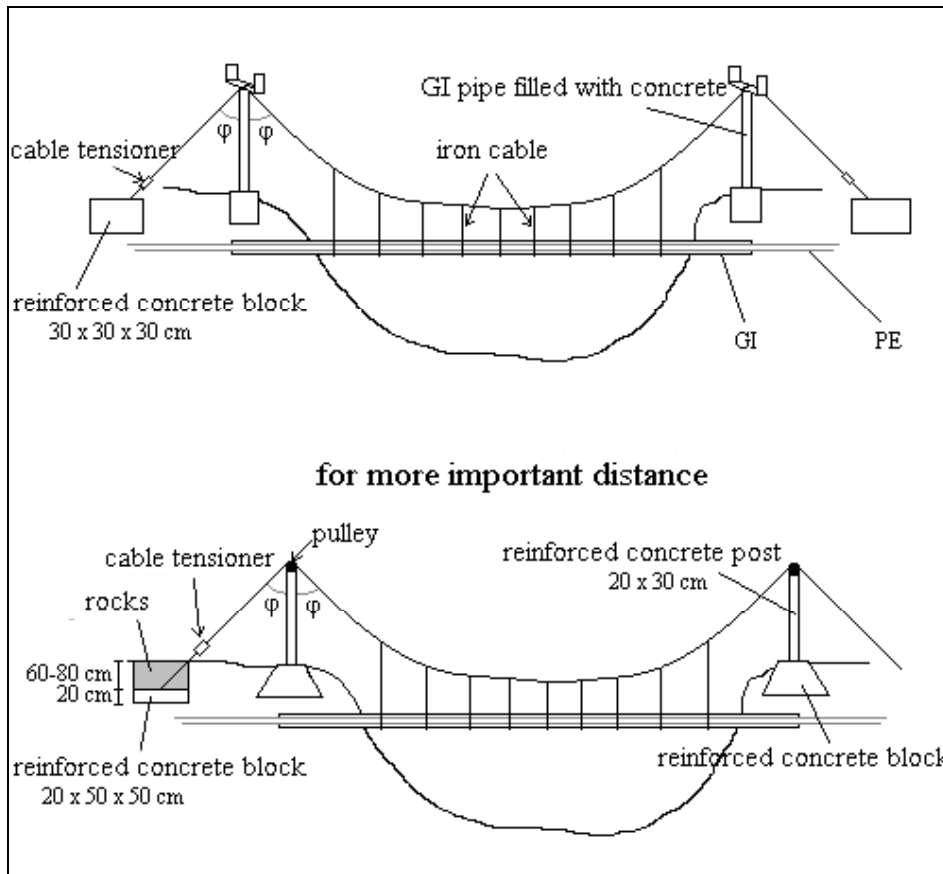

Fig.24: Crossing a gully or a river using suspended pipe (length above 10 m).
- If the range is higher than 10m, it is essential to support the galvanized pipe with a cable. It is important to anchor the cable on the two banks of the gully or river (see figure 24). The pipes must be attached to the cable every 70cm. The cable diameter is selected according to the length and the pipe diameter (see table 13).